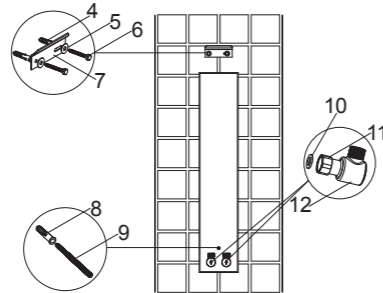

Fig.6
Mount the wall fixture bracket(7) by anchors(4), washers(5), screws(6). Make sure the bracket horizontal and secure. As Fig.6 shown. Install the anchor(8) and the screw(9).